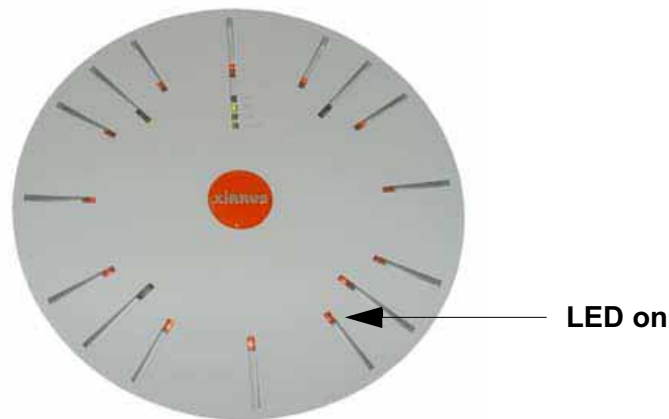

Figure 59. LEDs are Switched On
**Enable/Configure All IAPs:** Click on the **Execute** button to enable and auto configure all IAPs (a message displays the countdown time—in seconds—to complete the auto-configuration task). When an IAP is enabled, its LED is switched on. (Figure 59)